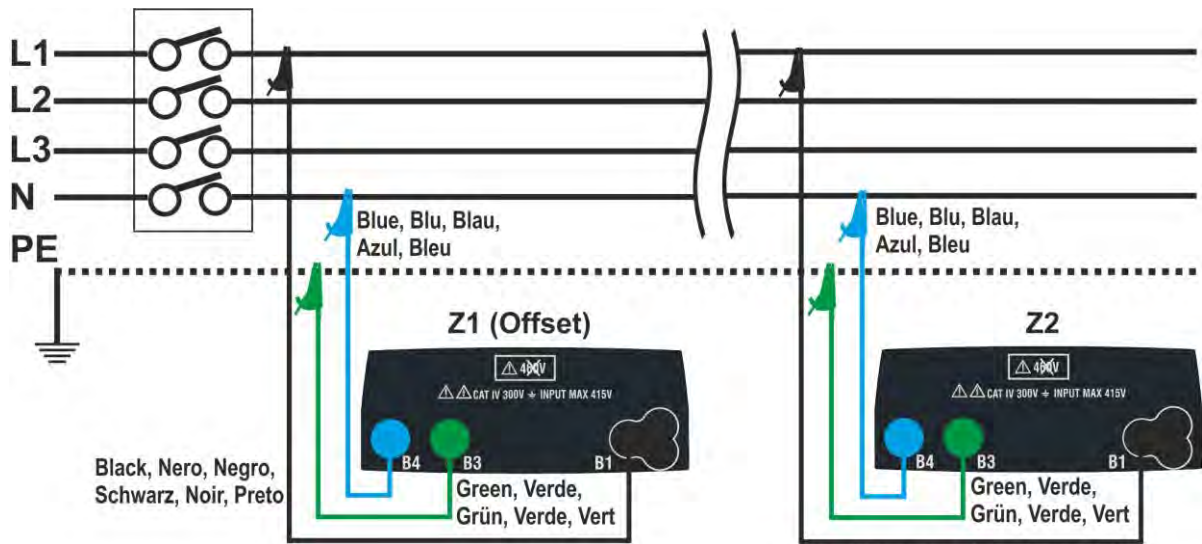
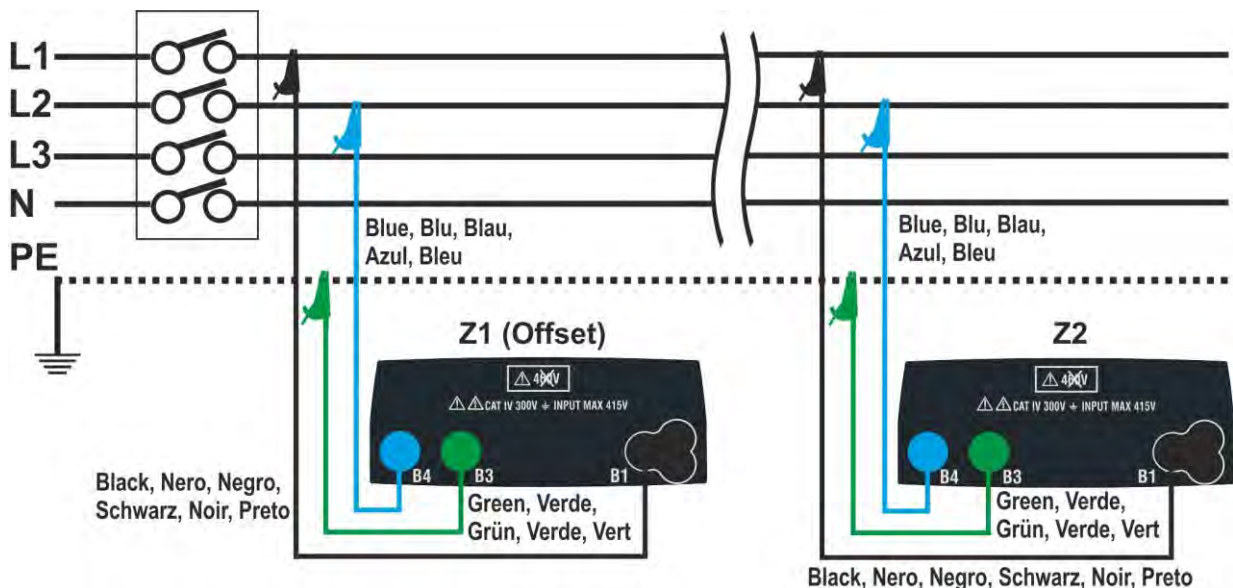

Fig. 37: Connection of the instrument for L-N mode voltage drop measurement
Fig. 38: Connection of the instrument for L-L mode voltage drop measurement
4. Connect the instrument to the initial point of the mains being tested (typically downstream of a protection device) according to Fig. 37 or Fig. 38 in order to carry out the first **Z1 (Offset)** impedance measurement. In this case, the instrument will measure the impedance upstream of the initial point of the mains being tested, taking it as starting reference. The following screen (referred to L-L measurement) appears on the display.
7. Connect the instrument to the final point of the mains being tested according to Fig. 37 or Fig. 38 in order to measure the **Z2** impedance at the end of the line. Note the previously measured Z1 (Offset) value displayed.